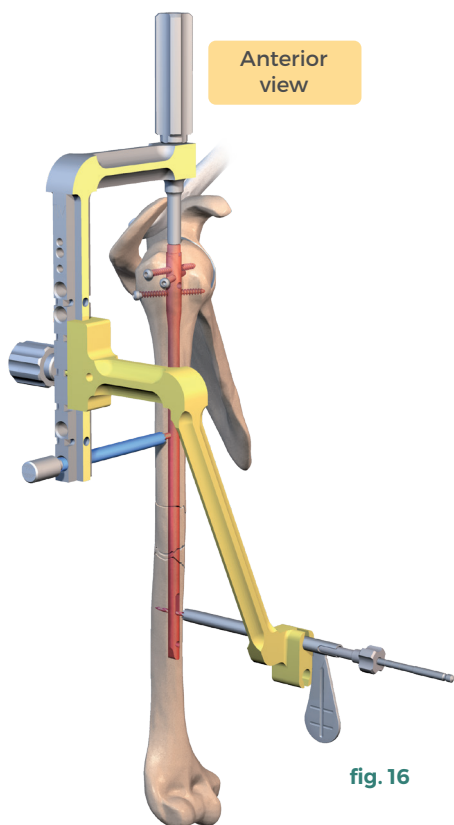

fig. 16
· Bicortical drilling with the D3.1 mm bit (ref. 270 821) (fig.16) and read the screw length directly on the drill bit.